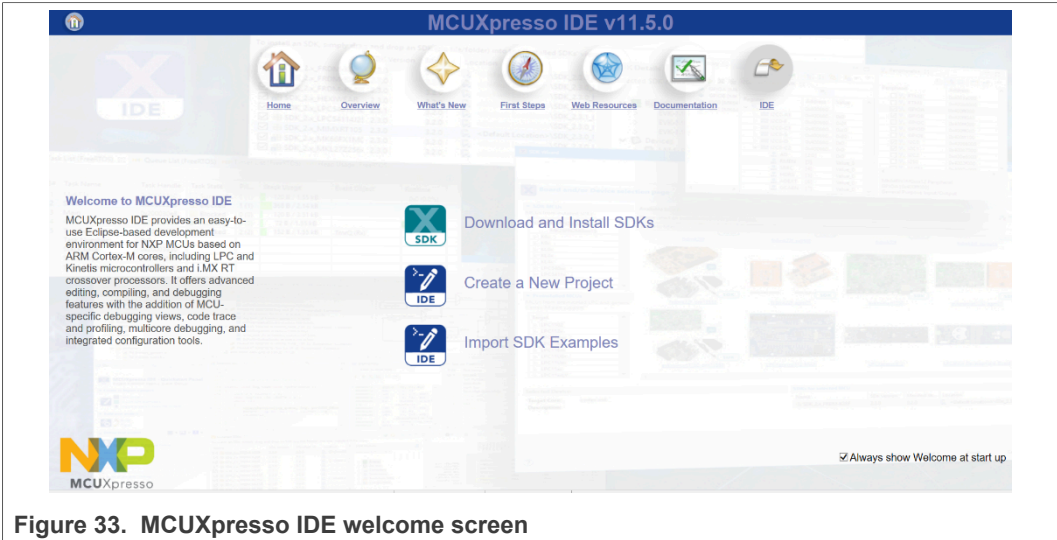

Figure 33. MCUXpresso IDE welcome screen
1. Open MCUXpresso IDE. Upon opening the application, the MCUXpresso IDE welcome screen appears, as shown in Figure 33.